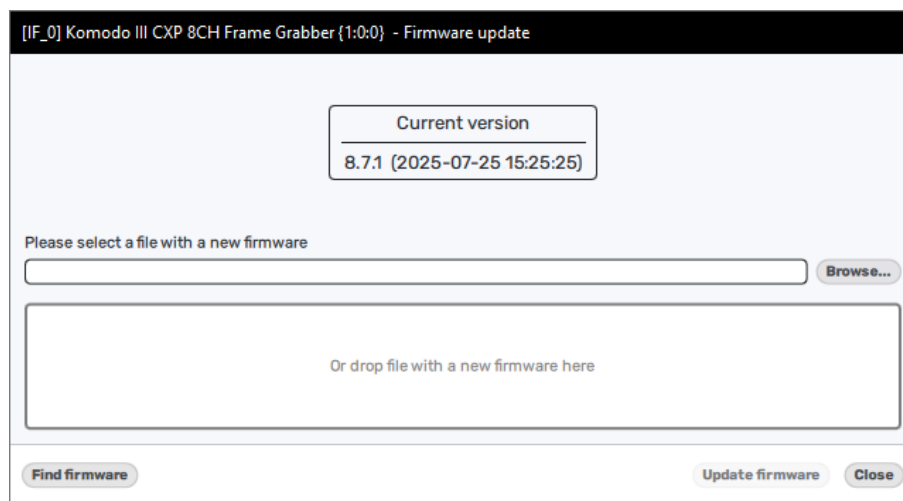

Figure 35 – Firmware update selection
2. Drop the appropriate firmware file for the chosen device into the firmware update window. Or click the Find firmware button, as shown in Figure 35, the browser will open the webpage when the user can find the latest firmware file.